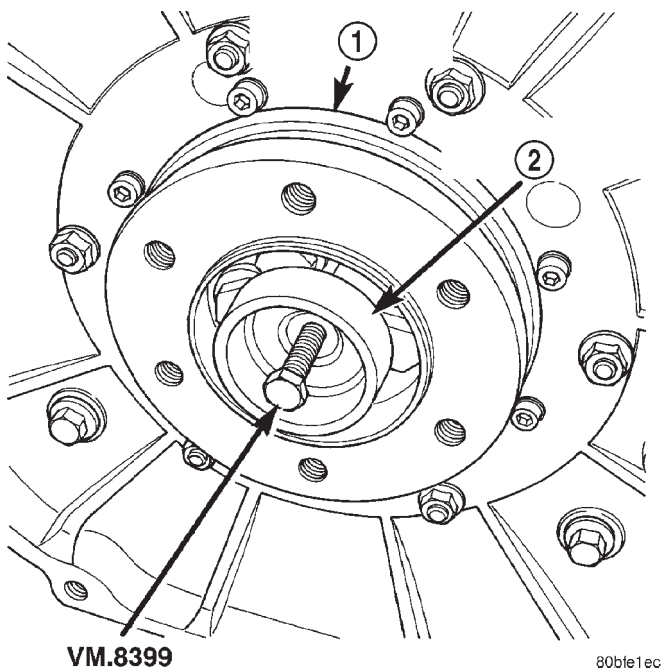

Fig. 106 Transmission Pilot Bushing
- (1) Install special tool VM-8399 into the transmission pilot bushing (Fig. 106).